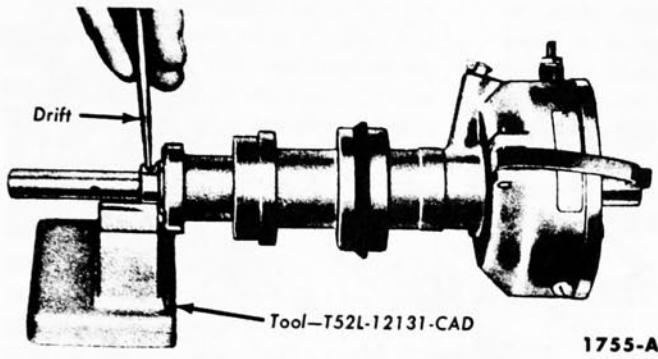
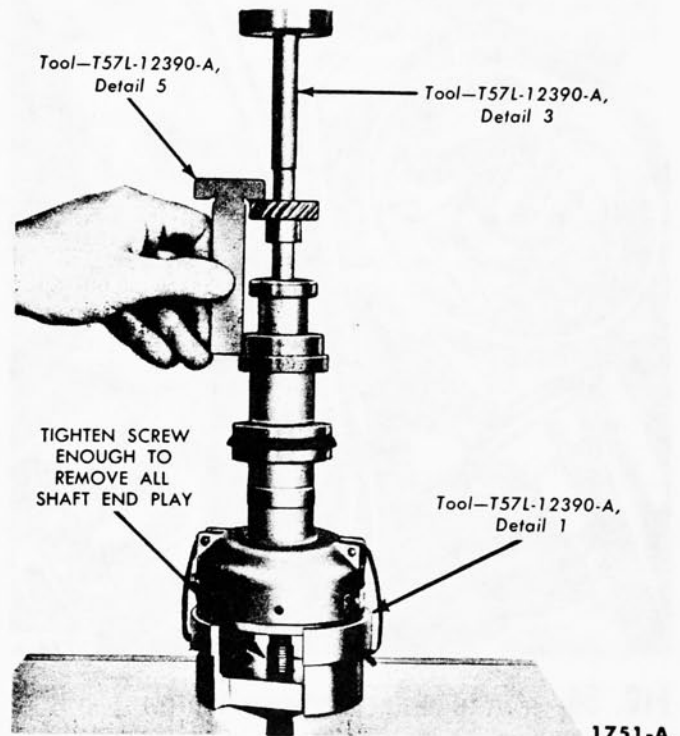

FIG. 25—Shaft Collar Roll Pin Removal or Installation
FIG. 31—Gear Installation—Typical
7. Remove the shaft collar roll pin (Fig. 25). Invert the distributor and place it on a support plate in a position that will allow the distributor shaft to clear the support plate, then
2. If the old shaft and gear are being installed, oil the shaft and slide it into the distributor body. Place the collar in position on the shaft and align the holes in the collar and shaft, then install a new pin (Fig. 25). Check the shaft end play with a feeler gauge placed between the centrifugal advance adjusting bracket plate and the top of the bushing. If the end play is not within limits (0.022-0.030 inch), replace the shaft.
Press the gear on the shaft (Fig. 31), using the marks made on the gear and shaft as guides to align the pin holes. Check the gear location dimension. With all end play removed (gear pushed toward the distributor base), this dimension should be 5.111-5.116 inches from the bottom face of the gear to the bottom face of the distributor mounting pad (Fig. 31). Install the retaining pin (Fig. 23).
lar in position against the distributor housing drill a $\frac{1}{8}$ -inch hole through the shaft using the access hole in the collar as a pilot. Install the pin (Fig. 25). With the supporting tool and the 0.022-inch feeler gauge still installed, install the drive gear (Fig. 31). Remove the assembly from the press and remove the supporting tool and feeler gauge. Drill a $\frac{1}{8}$ -inch hole through the gear and shaft, using the hole in the gear shoulder as a pilot. Install a new pin (Fig. 23).